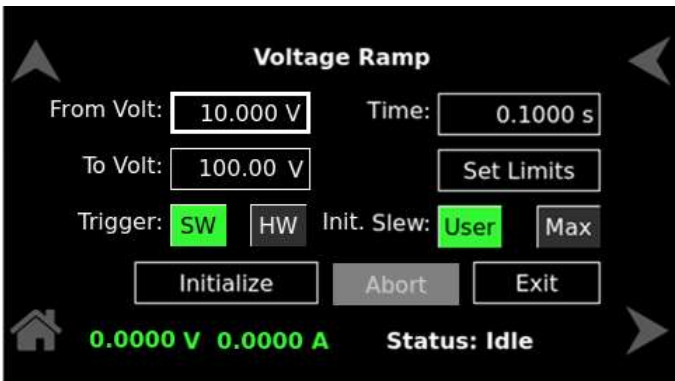

Figure 9-60. Status – IDLE
- a) **IDLE** - When the system is in Idle (not performing any task) situation, refer to Figure 9-60.